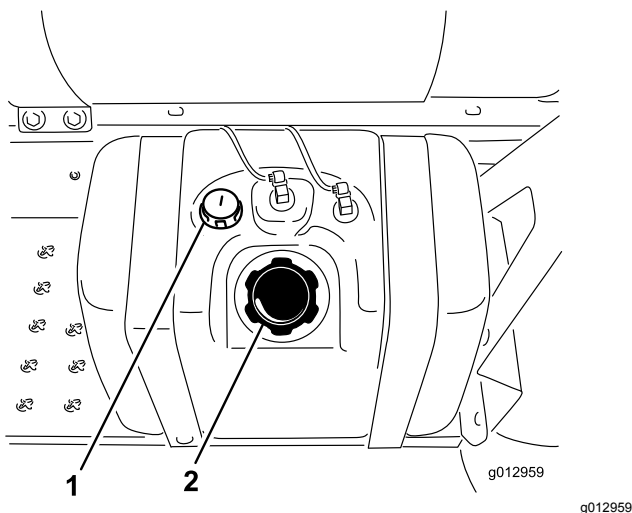

Figure 20
3. Clean the area around the fuel-tank cap (Figure 20).